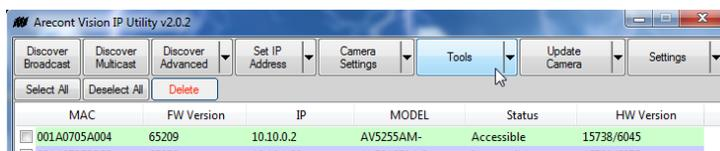

Figure 1
- a. Open AV IP Utility and Click on Tools as seen in Figure 1.